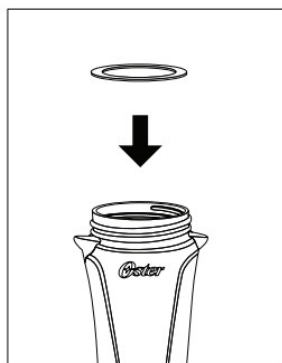

Figure 2
2. Place sealing ring over the opening of the cup. (Figure 2)